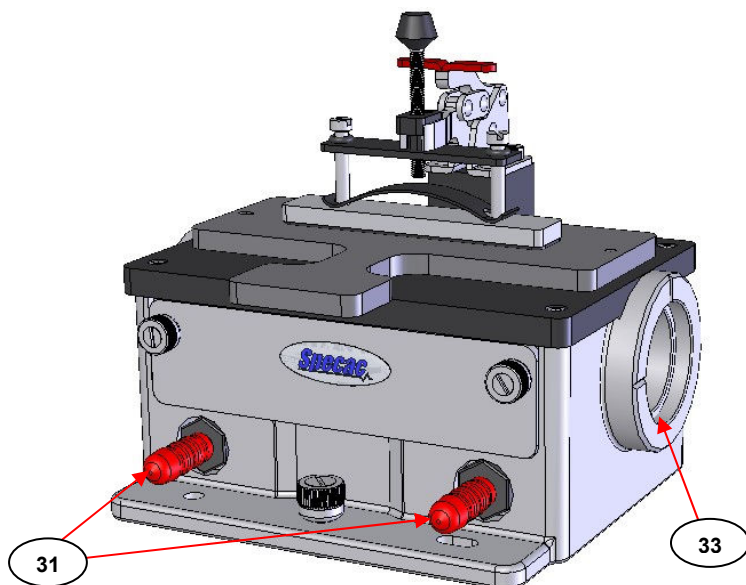
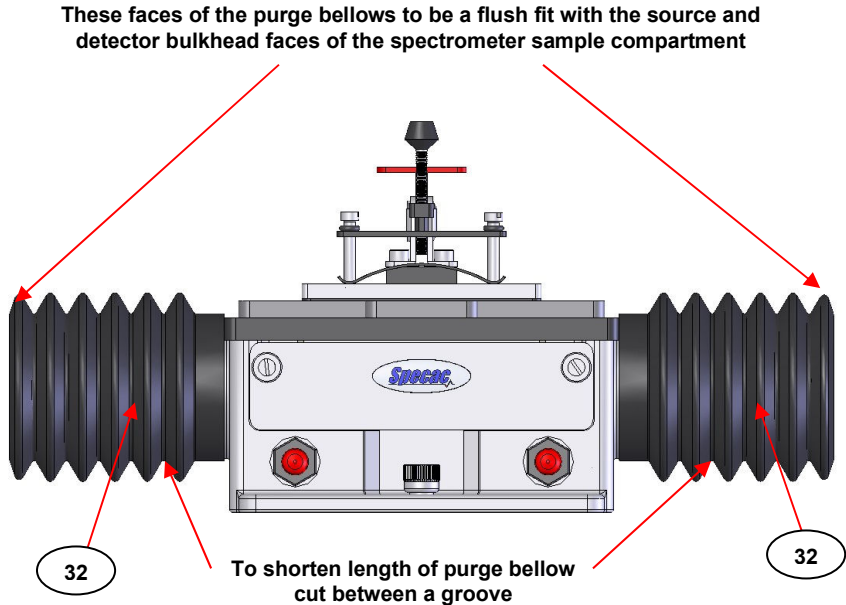

Fig 15. Gateway ATR™ Purge Port Connections and Aperture Ports
Fig 16. Gateway™ ATR Accessory fitted with Purge Bellows
If for any ATR experimentation it is necessary to reduce the effects of any residual water vapour or carbon dioxide content in the local atmospheric conditions, a purge gas such as nitrogen (N₂) can be introduced into the Gateway™ ATR optical unit (2) via use of the purge port connections (31) at the front under the front cover plate (27). These purge ports (31) are barbed hose type connectors with red plastic cover tube caps. To introduce a flow of a purge gas, the red plastic cover tube is removed and appropriate tubing (e.g. 1/4" O.D, 1/8" I.D. black silicone rubber tubing) is push fitted over the barbed hose connection. Either of the two purge port connections (31) can be used as the **inlet** port for any purge gas flow. (See Fig 15.)
To purge the system and maintain a local N₂ gas environment within the optical unit (2), it is necessary to enclose the IR beam between the ends of the Gateway™ ATR optical unit (2) and the sample compartment of the spectrometer itself. This is done with the flexible purge bellows (32) (P/N GS10707 as supplied) when the purge bellows (32) have been trimmed appropriately for fit. The bellows (32) are fitted over the aperture port rings (33) of the Gateway™ optical unit (2) for one of their ends and abut tightly against the source (S) and detector (D) sample compartment bulkhead faces of the spectrometer for the other end. (See Fig 15 and Fig 16.)
If the gap/distance between the side of the optical unit (2) and the spectrometer source (S) and detector (D) sample compartment bulkhead faces is small, the purge bellows (32) can be cut to size for a better compressible fit. It is best to cut all the way around and in between one of the ridged grooves of the purge bellows (32) moulding itself, when shortening the length for fit. (See Fig 16.)